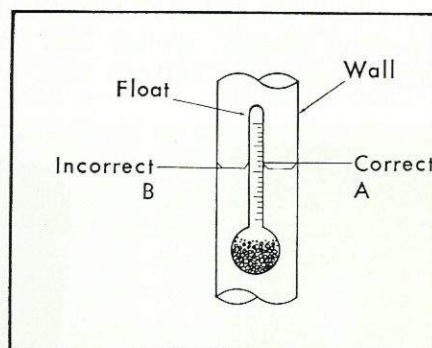

Fig. 41
2. Be sure to read the hydrometer at level A, not B, as shown in Fig. 41.